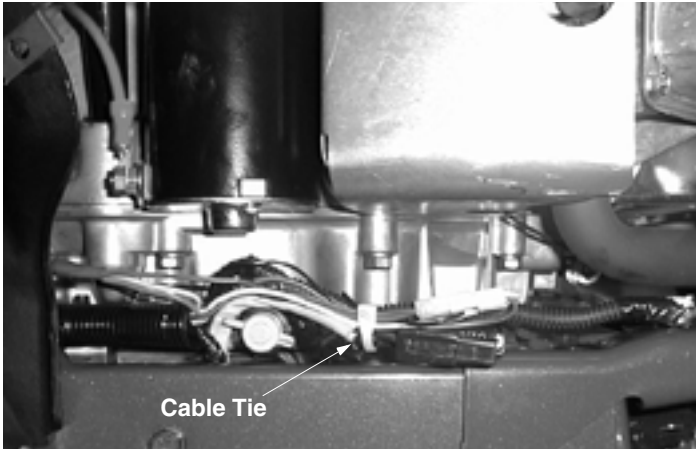

Figure 11
8. Pull headlight lead forward and push plastic clip into hole in frame. Take up all excess slack in wires and secure with cable tie along right side of engine as shown. Be sure wires do not interfere with operation of oil drain. See Figure 11.